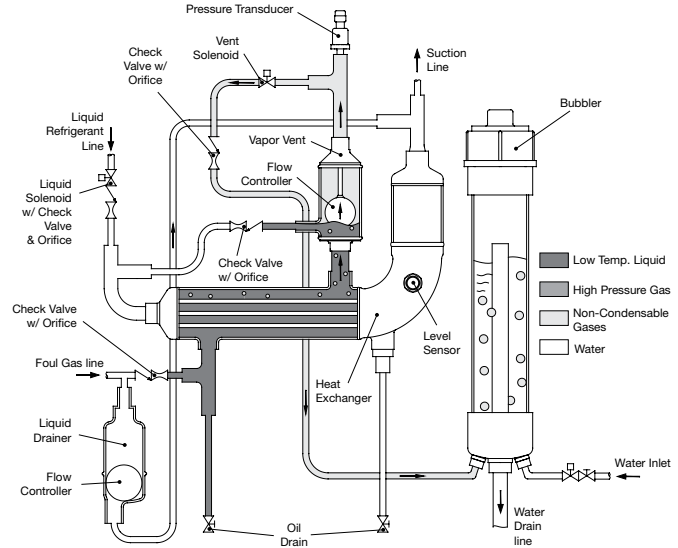

Figure 4: Purger Release of Non-Condensable Gases
3. Release of Non-Condensable Gases (See Figure 4 for a graphic representation of this cycle)